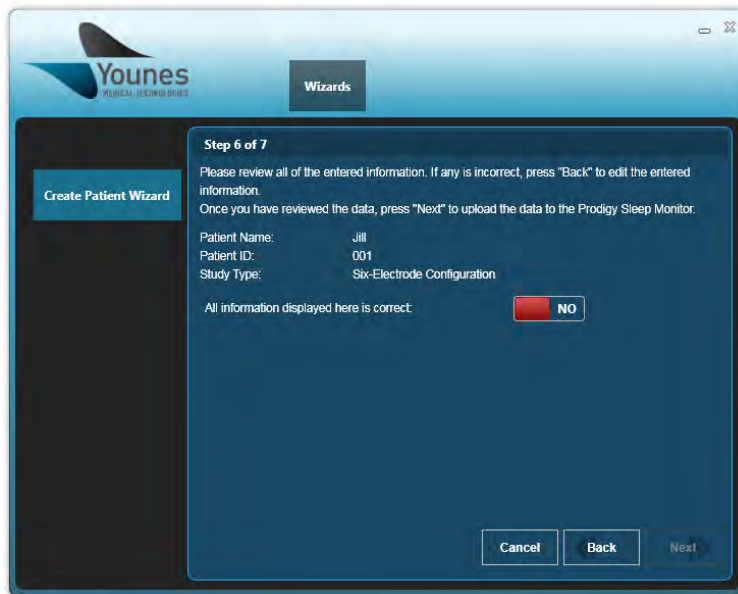

Figure 126 – Windows PC Prodigy Application Patient Information Not Confirmed Screen (Create Patient Wizard)
14. A summary of all patient information entered will be displayed on the screen, as shown in Figure 126.